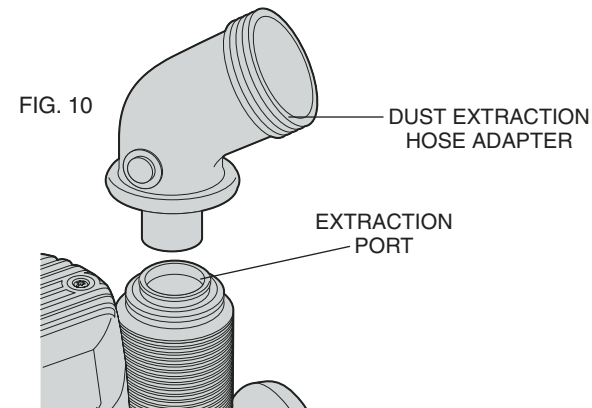

FIG. 10
2. If required, insert the dust extraction hose adapter into the dust extraction port (Fig. 10).